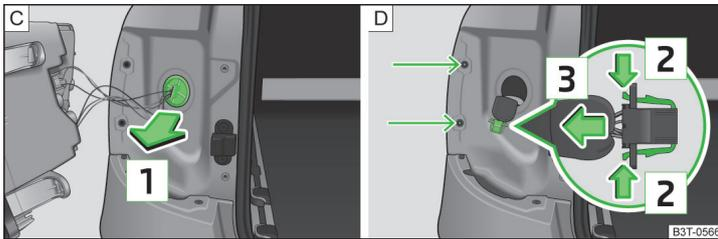
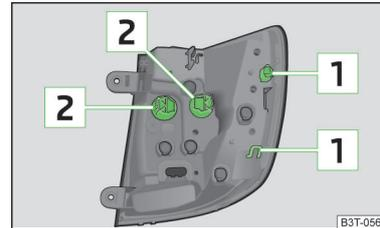

Fig. 210 Seal expand / lighting connector
Fig. 211
- Remove the rubber seal in the direction of arrow [1] » Fig. 210 - [C].
- Pull off the cable bundle with the plug cap » Fig. 210 - [D].
- Press together the interlocks on the connector in the direction of arrow [2] » Fig. 210 - [D].
- Install the rubber seal in the body in the opposite direction to arrow [1] install » Fig. 210 - [C].
- Insert the tail lamp with the holes [1] » Fig. 211 on page 227 into the bolts on the body » Fig. 210 - [D].
- Turn the bulb holder [2] » Fig. 211 in an **anti-clockwise** direction and remove it from the lamp housing.